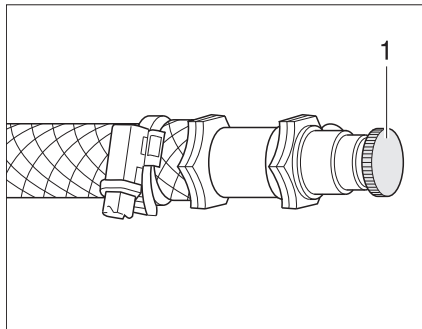

Fig. 155 Bleeding valve of hot-water heater
- Open the bleeding valve (Fig. 155,1) and leave it open until no more air escapes.